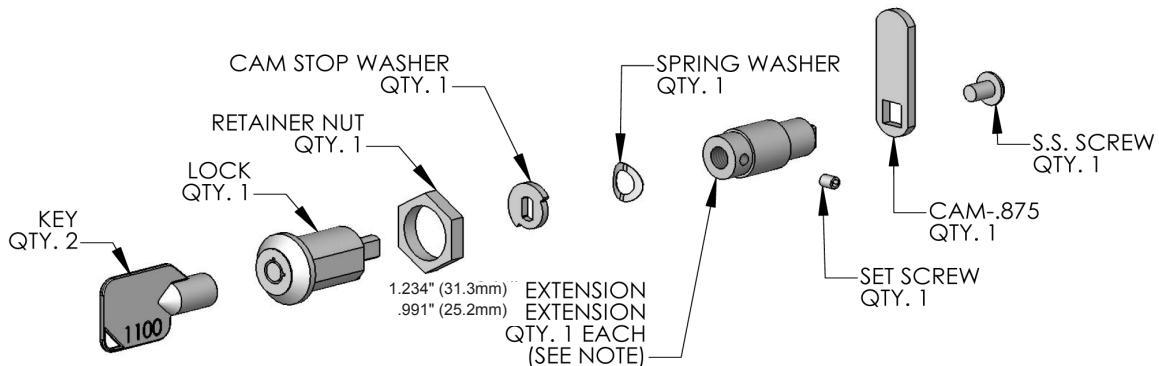

Figure 32
Two (2) lock extensions are supplied with the lock. Use the longer extension for a 3/4" thick overlay panel and the shorter one for a 5/8" thick panel. Assemble the lock extension, cam stop washer, spring washer, and set screw to the lock as shown in Figure 32 and 33.